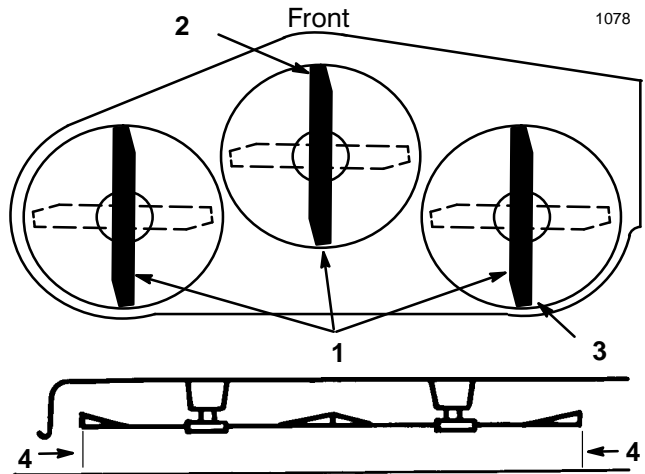

Figure 10
4. Carefully rotate blades so they are facing front and rear (Fig. 10).
5. Measure from the tip of the front blade (Fig. 10) and the tip of the rearward blades to a flat surface. If the front blade tip is not 0-3/8" lower than the rear blade tips adjust front adjustment links.